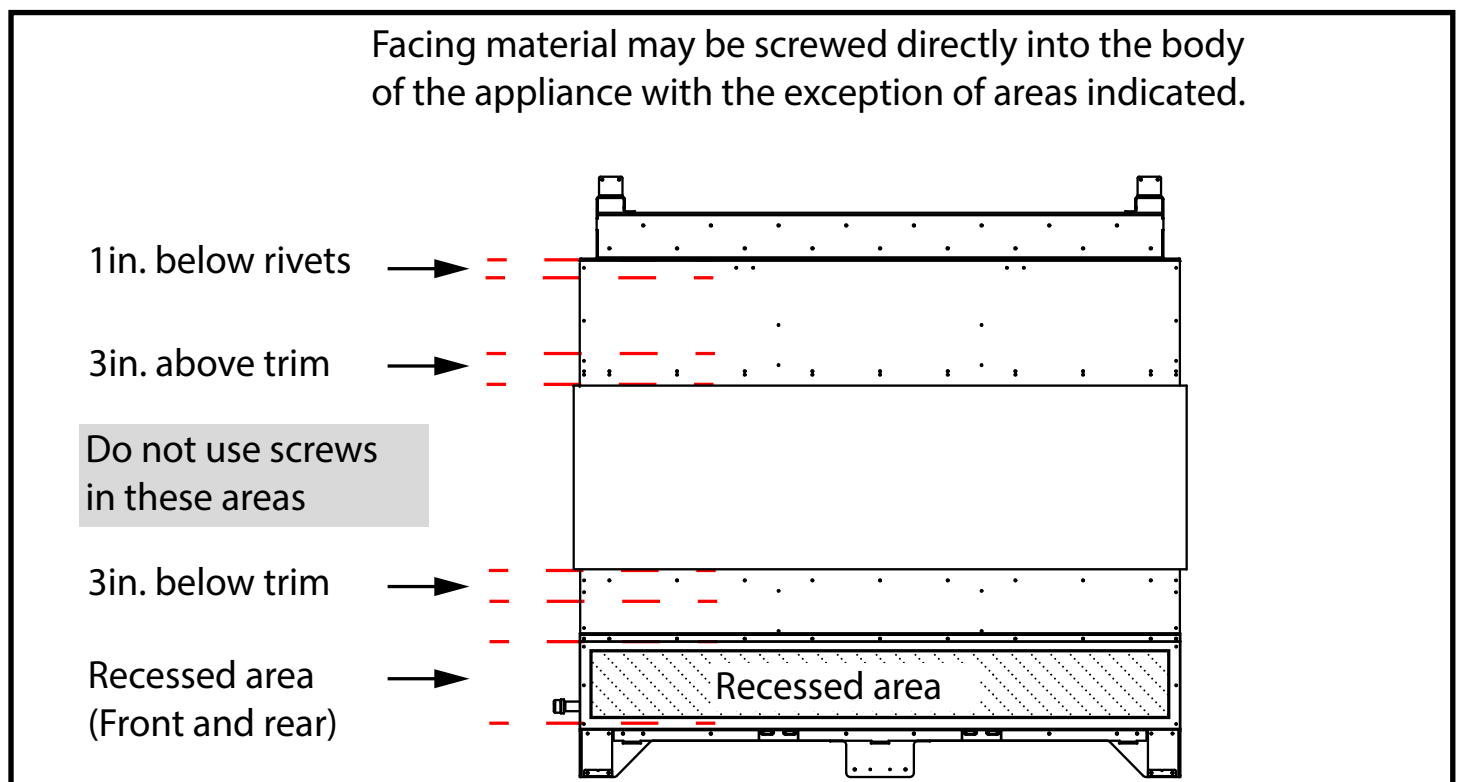

Figure 4: Facing attachment area for Bottom Intake models.
2. Facing material can be secured directly to the front and sides of the unit except in the areas indicated in this example by Figure 4. Each model will have its own specific areas in which screws must not be driven into.